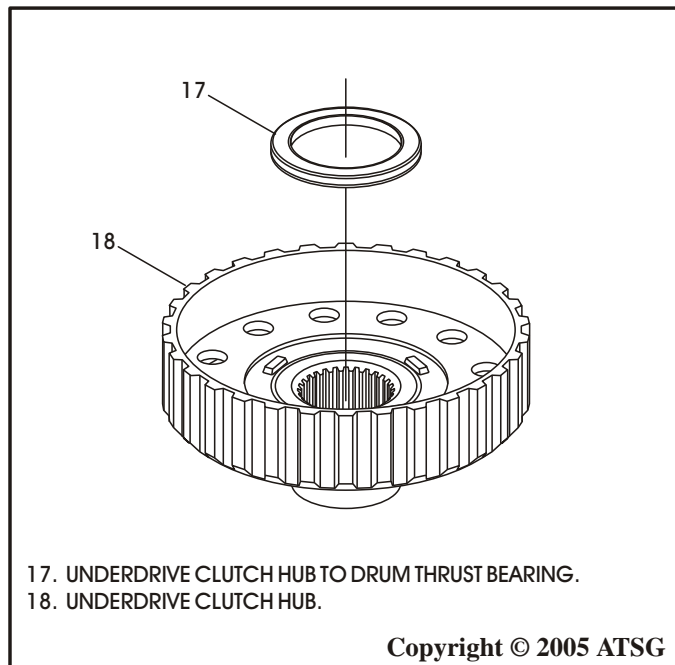

Figure 121
2. Install the number 2 thrust bearing onto the underdrive clutch hub, in the direction shown in Figure 121, and retain with a small amount of Trans-Jel®.